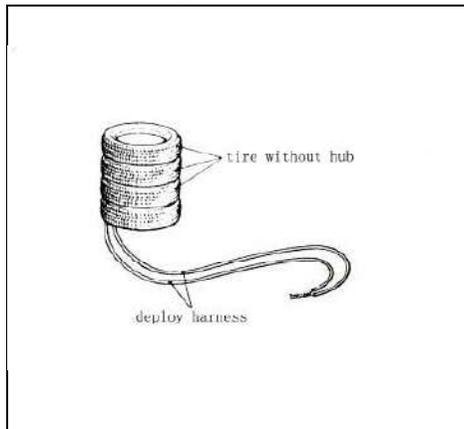

Fig 19-54
5) Put three old tyres without wheels on the tyre secured to the front passenger's air bag module.Secure all the tyres with ropes (4 locations). (See fig 19-54)